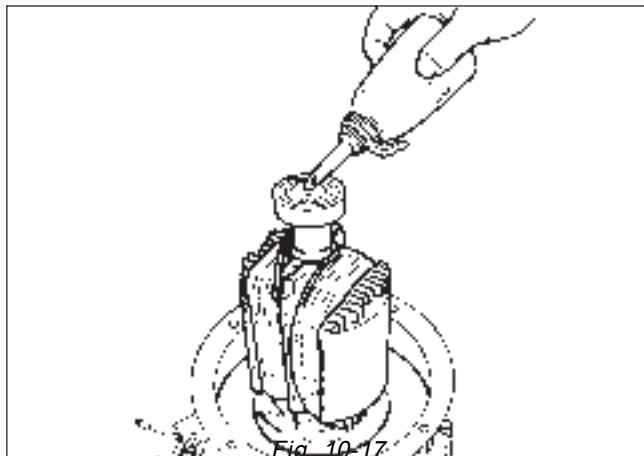
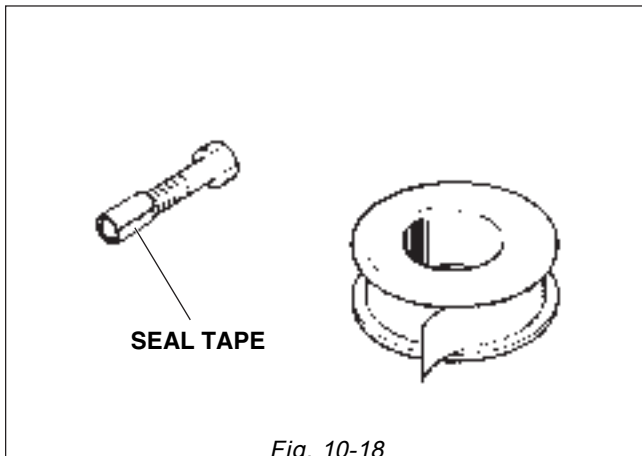

Fig. 10-17
Fig. 10-18
<p>(3) Use a bolt and oil as a tool for pulling out rotor in the following procedures :</p> <p>1. Pour engine oil into the center hole of rotor shaft. Fill with oil to the shaft end. (See Fig. 10-17.)</p> <p>2. Prepare a bolt with the following thread size : PX4800, 6100 ...M12 x P 1.5</p> <p>3. Apply a few turns of seal tape around the tip of the bolt. (See Fig. 10-18.)</p>